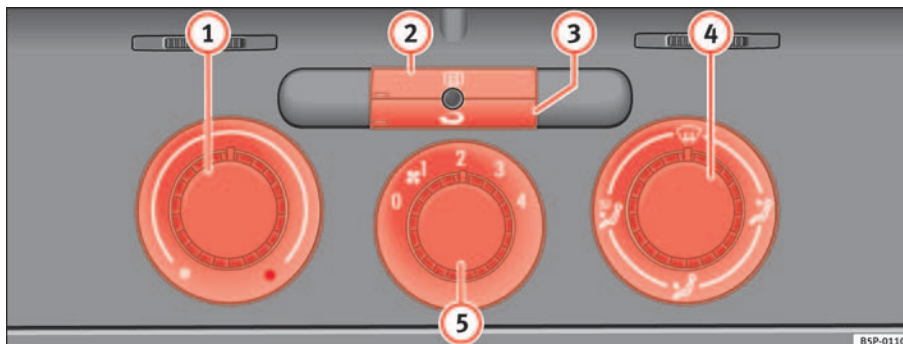

Fig. 123 On the dash panel: Heater controls
- Using the controls ⇒ fig. 123 ① and ④ and the control ⑤ you can set the temperature, air distribution and the airflow.
- To switch a function on or off, press the appropriate button ② or ③. When the function is activated, the display window in the lower left of the button is lit.